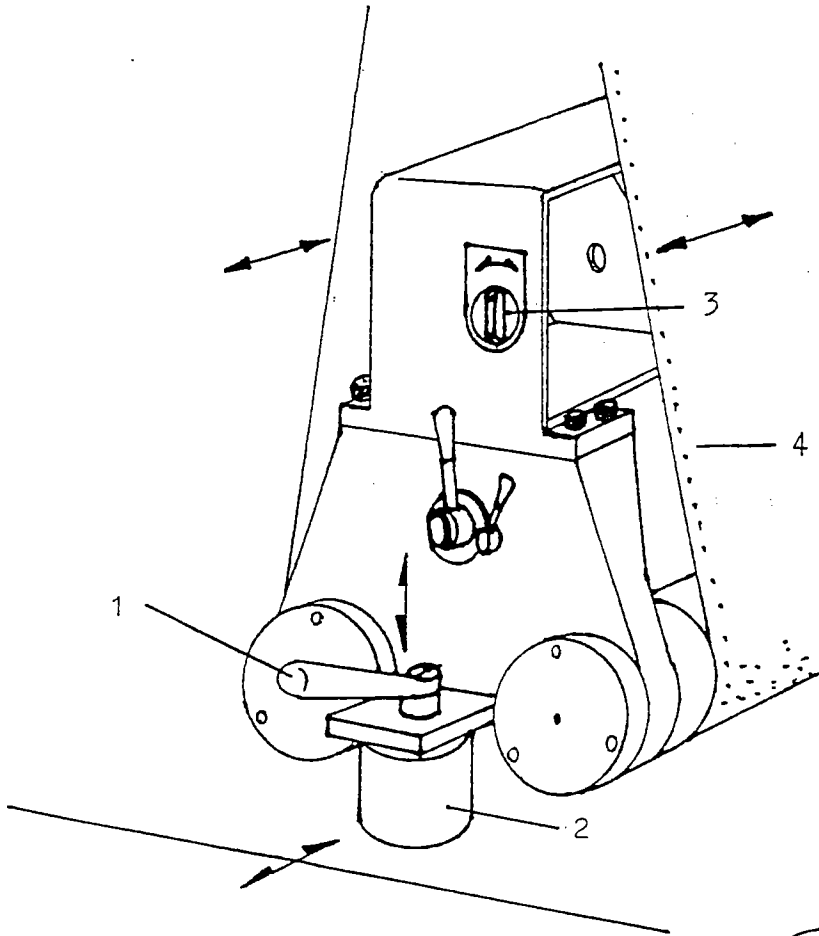

FIG. 1
- H. Replace spacer block and tighten lock screw (fig.1).
- I. Turn "ON" air valve switch (3) for sanding belt tensioning and check that belt edges have clearance with limit switch fingers on both sides.